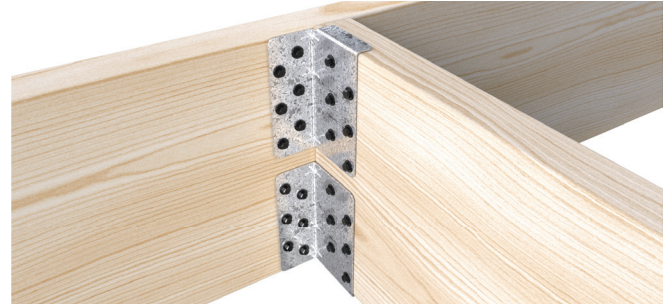

Figure 6: A pair of Split Hangers stacked on one side
3. Limit state capacities shall be multiplied by 0.7 when a pair of Split Hanger is installed on one side of supporting beam (stacked). See Figure 6.
A pair of Split Hangers could also be used as corner bracket when requiring higher capacities in connection design or stacked on one side in a typical beam-to-beam connection. Figure 6 illustrates a pair of Split Hangers stacked vertically on one side of supporting beam. Ensure the depth of beam achieves the minimum required depth when stacking Split Hanger to avoid overlapping.